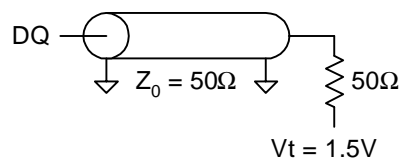

Fig. 1 OUTPUT LOAD EQUIVALENT
2. Test conditions as specified with the output loading as shown in Fig. 1 unless otherwise noted
6. Capacitance derating applies to capacitance different from the load capacitance shown in Fig. 1.
Output load	See Figures 1 and 2